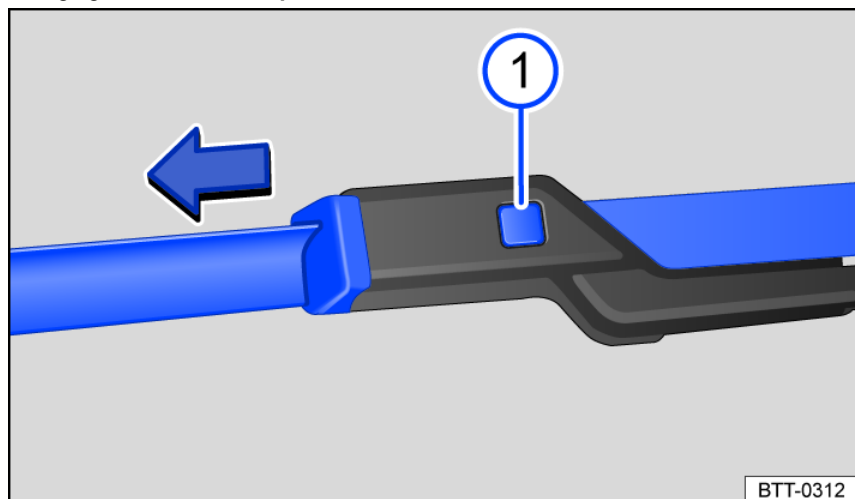

Fig. 172 Changing the windshield wiper blades.
- Press and hold the release button and remove the wiper blade at the same time in the direction of the arrow fig. 172 Ⓛ.